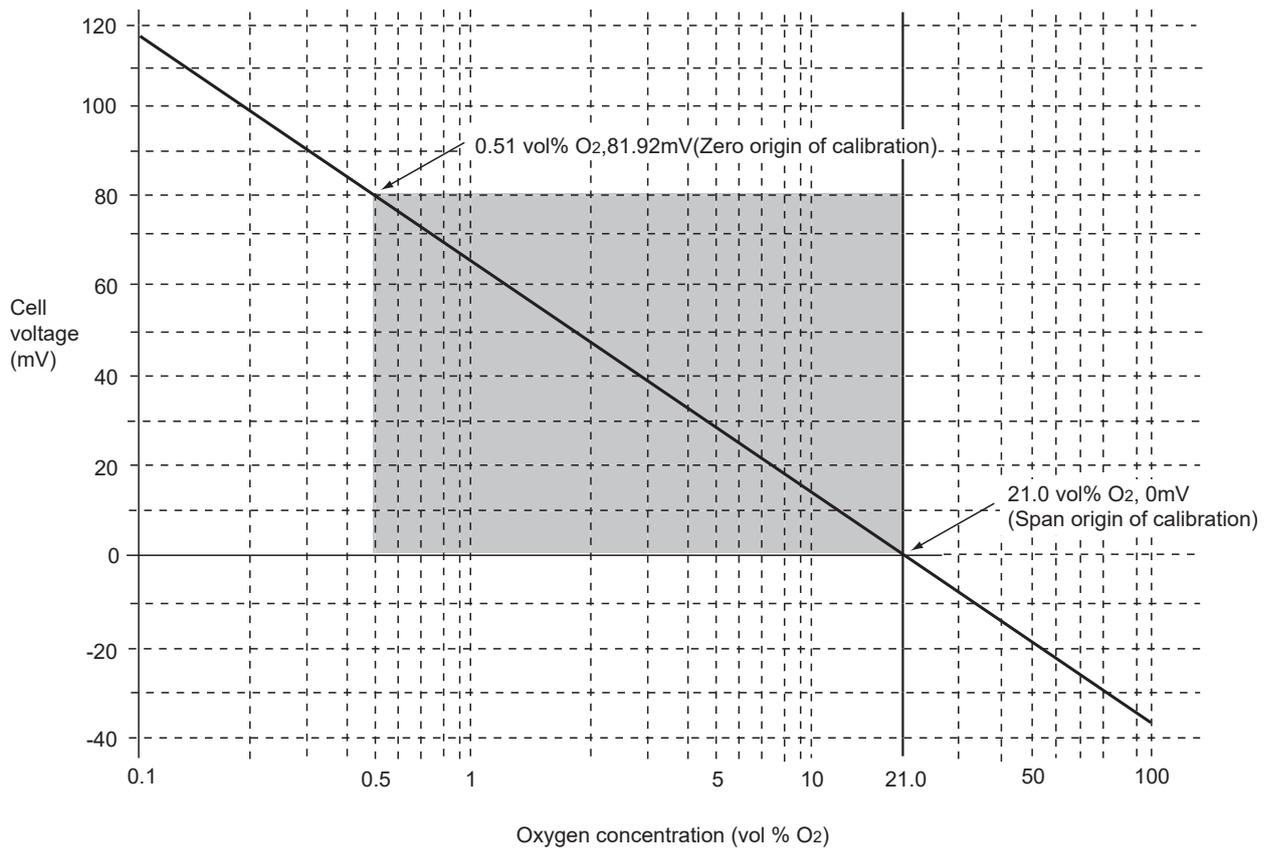

Figure 8.1 Oxygen concentration in a Sample Gas vs Cell Voltage (21 vol%O₂ Equivalent)
With this analyzer, the sensor (zirconia element) is heated up to 750°C, so Equation (2) is valid. At that point, the relationship as in Figure 8.1 is effected between the oxygen concentration of the sample gas in contact with the positive electrode and the electromotive force of the sensor (cell), where a comparison gas of air is used on the negative electrode side.